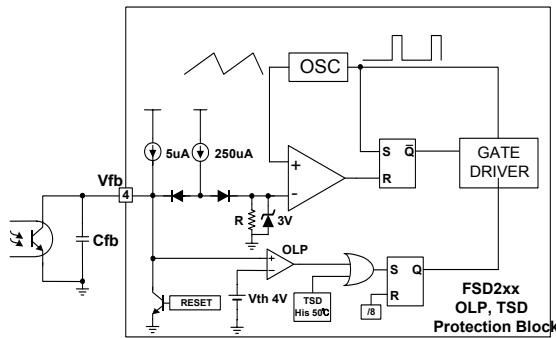

Figure 4. Protection block
4. Protection Circuit : The FSD200/210 has 2 self protection functions: over-load protection (OLP) and thermal shutdown (TSD). Because these protection circuits are fully integrated into the IC with no external components, system reliability is improved without cost increase. If either of these functions are triggered, the FPS starts an auto-restart cycle. Once the fault condition occurs, switching is terminated and the MOSFET remains off. This cause Vcc to fall. When Vcc reaches the UVLO stop voltage (6.7V:FSD210, 6V:FSD200), the protection is reset and the internal high voltage current source charges the Vcc capacitor. When Vcc reaches the UVLO start voltage (8.7V:FSD210, 7V:FSD200), the device attempts to resume normal operation. If the fault condition is no longer present start up will be successful. If it is still present the cycle is repeated. This is shown in Figure 4.